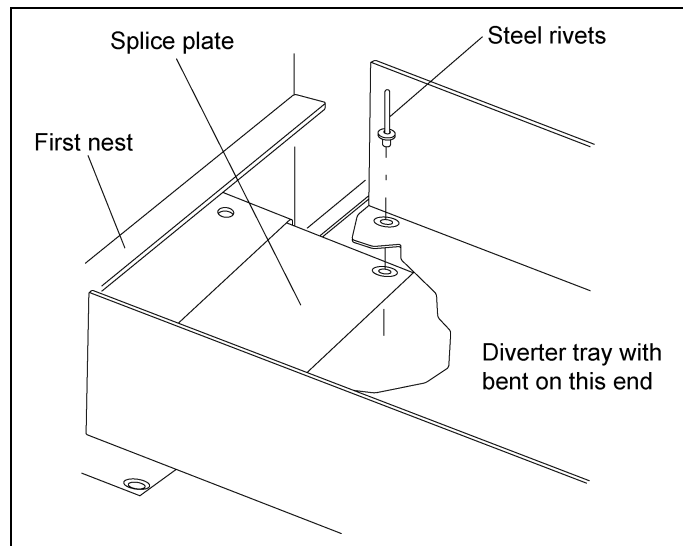

Figure 4V Diverter Tray Connection
4. Place diverter trays through holes cut in the wall. Rivet the diverter trays to the splice plate of the first nest using two (2) 3/16" steel rivets per tray. Make certain the end of the diverter tray that has a bend in the center is toward the nest, flat end goes to collector. (See Figure 4V.)